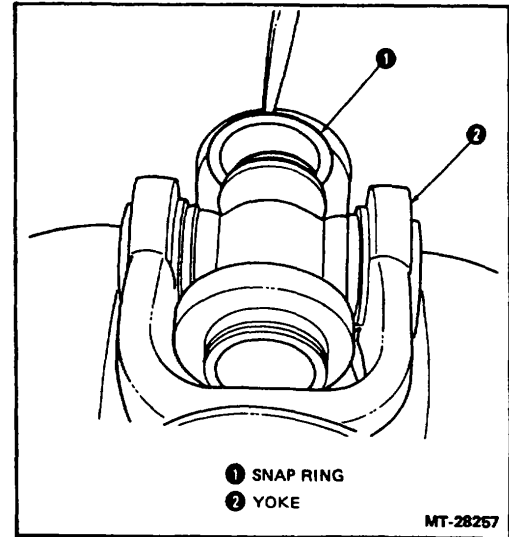

Figure 15 - Snap Ring Installation
6. After pressing bearing into yoke, the spider may be off center in yoke. This is desirable because it permits installation of snap ring on the side with the most clearance. Refer to Figure 15 and install snap ring.